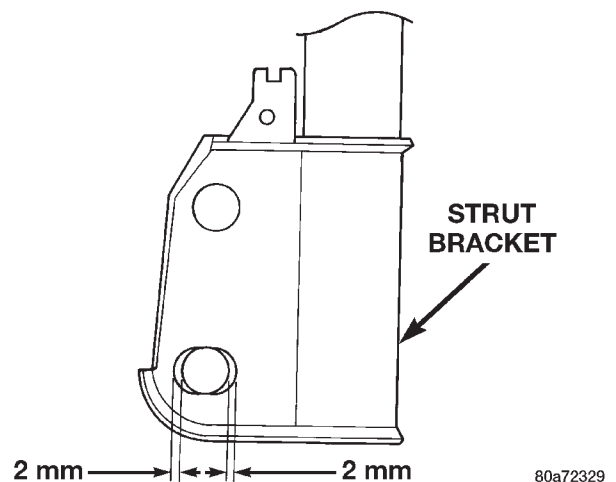

Fig. 6 Strut Bracket Hole Grinding Area
the hole more than 2 mm in either direction as shown in (Fig. 6) if the strut is not marked to show the shape of the slot.
(9) Using an appropriate grinder and cutting tool, slot the bottom hole (Fig. 6) in both sides of the strut clevis bracket. **When grinding slot do not go beyond the indentation area on the sides of the clevis bracket (Fig. 6).**